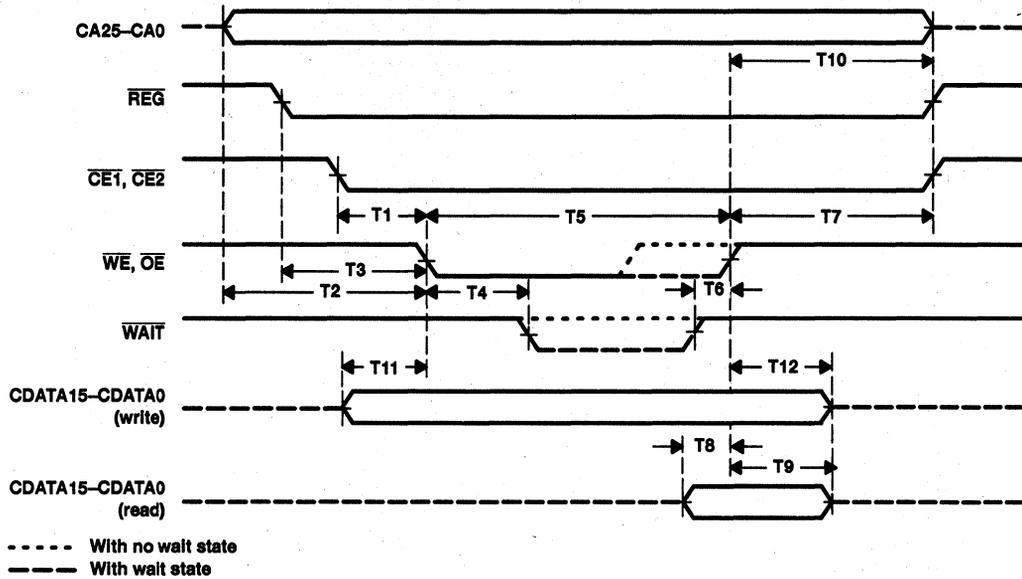

Figure 18. PC Card Memory Cycle
**timing requirements over recommended ranges of supply voltage and operating free-air temperature, memory cycles (for 100-ns common memory) (see Note 6 and Figure 18)**